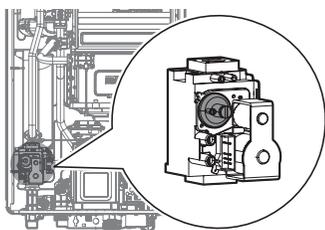

Figure 10
- c. Fully open a hot water fixture and set the water heater to operate at 1-stage MIN mode (refer to “Setting the Operation Mode” on page 115). Measure the offset value at low fire and compare it to the values in Table 3. If the offset value is out of range, the gas valve set screw will need to be adjusted. If adjustment is necessary, locate the set screw as shown in Figure 10. Using a  $\frac{5}{32}$  in. or 4 mm Allen wrench, turn the set screw no more than  $\frac{1}{4}$  turn clockwise to raise or counterclockwise to lower the offset value.